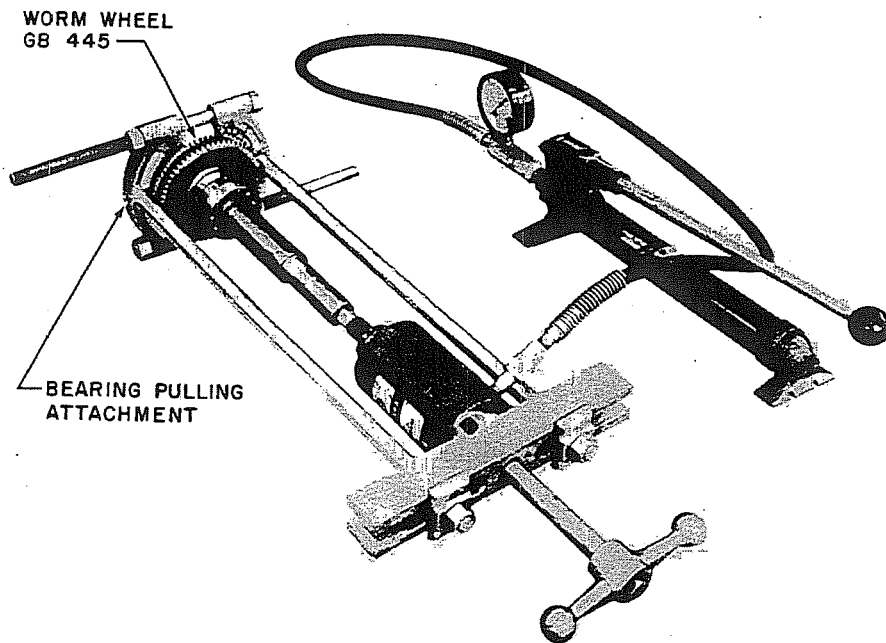

Figure 13. 4 to 1 Shaft, Installation of Worm Wheel GB445
- J. Secure the bearing pulling attachment behind Worm Wheel GB445 and press on by applying pressure to the shaft (figure 13).